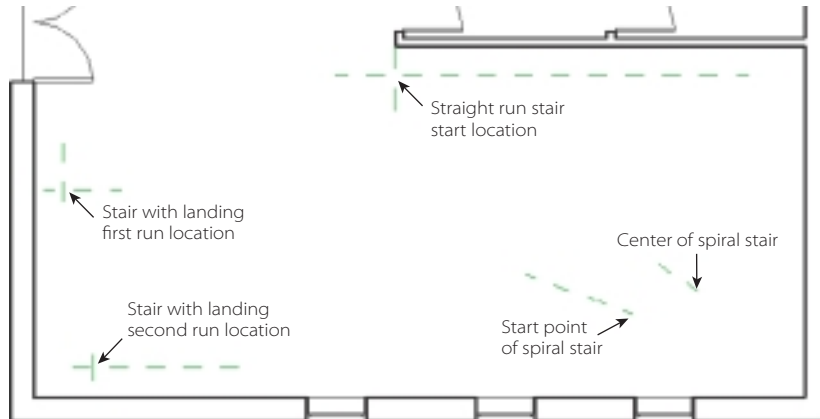
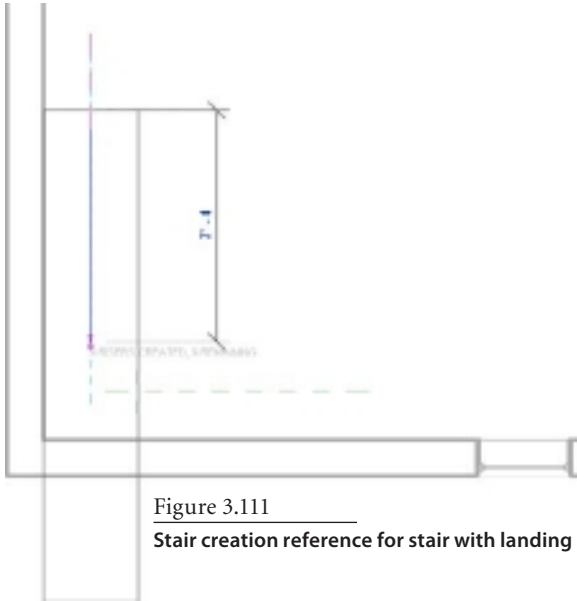
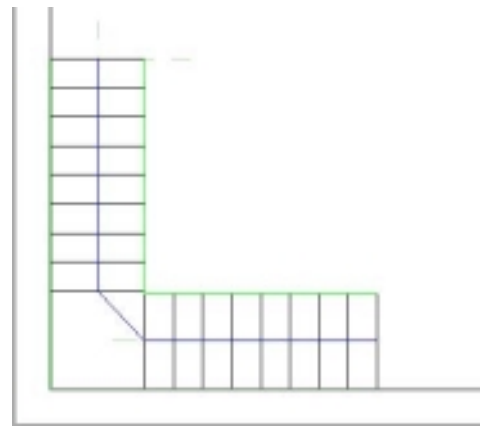

Figure 3.106
Figure 3.111
Figure 3.112
5. In the Draw panel, click the Line tool. Using Figure 3.106 as a reference, use the intersection of the two reference planes as the start point of the run of the straight stair.
5. In the Draw panel, click the Line tool. Using Figure 3.106 as a reference, locate "Stair with landing first run." Use the intersection of the two reference planes as the start point for the run of the stair with landing. Drag the mouse pointer until the dynamic feedback on the risers reads "9 RISERS CREATED, 9 REMAINING," and click (Figure 3.111).
6. Using Figure 3.106 as a reference, locate “Stair with landing second run.” Use the intersection of the two reference planes as the start point for the run of the stair with landing.” Drag the mouse pointer until the dynamic feedback on the risers reads “18 RISERS CREATED, 0 REMAINING,” and click to complete the stair sketch (Figure 3.112).
6. In the Draw panel, click the Line tool. Using Figure 3.106 as a reference, use the center of spiral stair as the start point of the run of the stair with landing.
7. Using Figure 3.106 as a reference, drag the mouse pointer to the start point of the spiral stair to define the arc run radius, and click a second time to define the arc boundary radius (Figure 3.114).